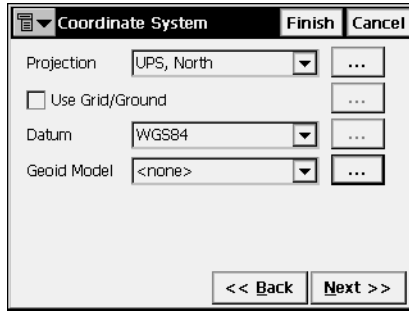

Figure 3-62. Coordinate System
1. On the *Coordinate System* screen, set the parameters of the coordinate system used: the projection, the Datum, and/or Geoid, then tap **Next** (Figure 3-62 on page 3-42). To add a projection/datum/geoid, tap the browse button in the corresponding field (for details, refer to the *TopSURV Reference Manual*).